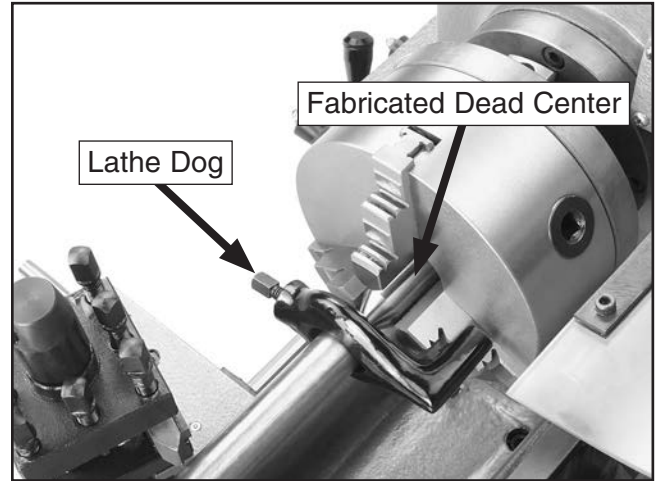

Figure 37. Round stock mounted between centers.
- Attach a lathe dog to the bar stock from **Step 3** and mount it between the centers (see **Figure 37**).